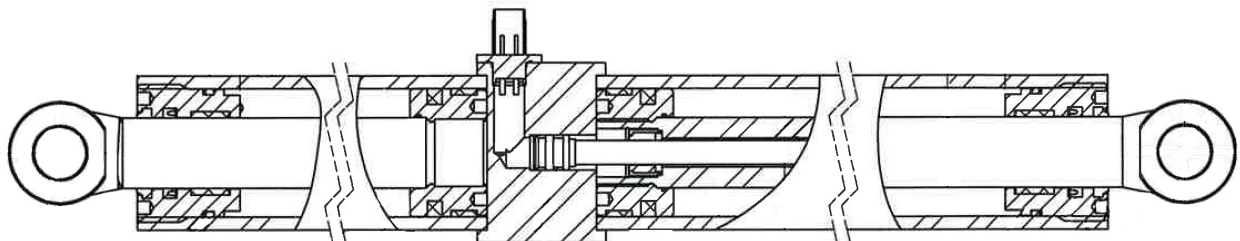
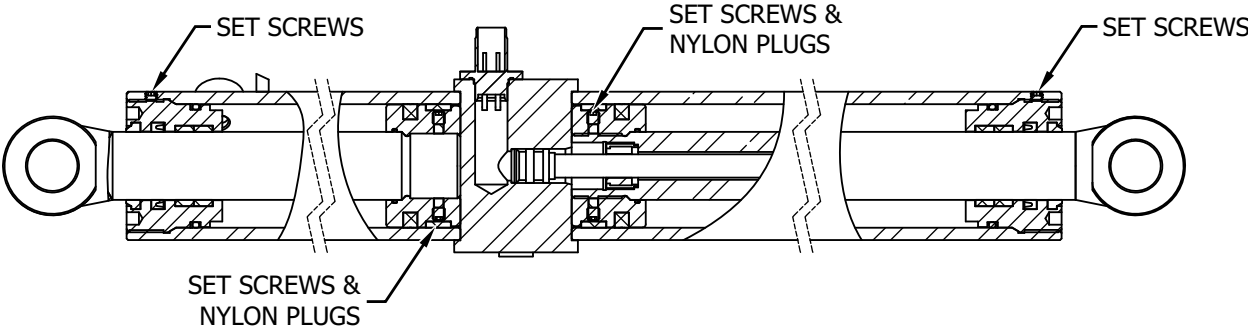

Figure 1: Cylinder P/N: H13248
Figure 2: Cylinder P/N: H15711 (has secondary retention)
- Option 1: Replace cylinder P/N: H13248 (see Figure 1) with cylinder P/N: H15711 (see Figure 2 on page 2).